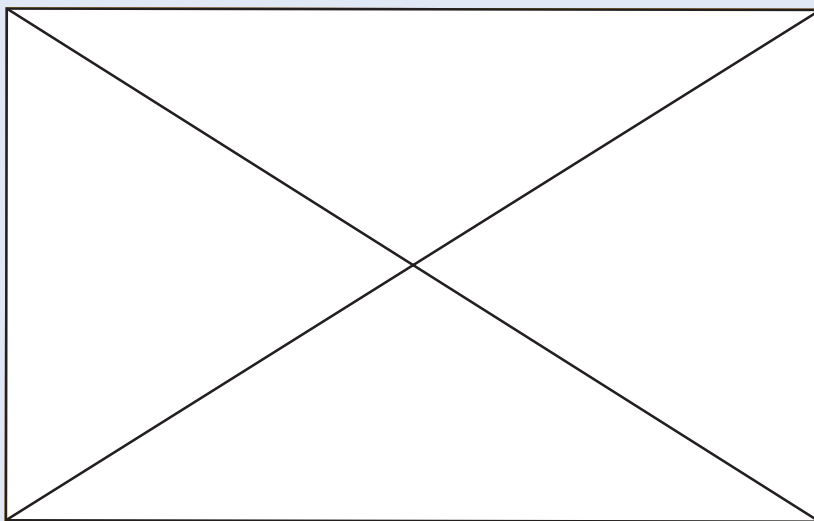

Figure 1.7 Laboratory Preparation of Ethyne.
1. Arrange the set up as shown in **Figure 1.7**. Put a layer of sand in a conical flask and place calcium carbide on the sand.